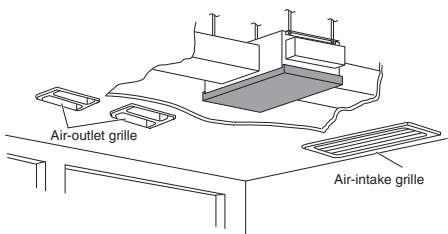

Fig. 3-7
- Plug all gaps at tube through-holes in the unit with insulation or a similar substance to prevent air leakage. (Fig. 3-7)